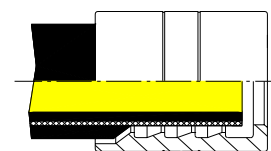

Fig.3
3. Insert the ferrule onto the hose till its end in order to completely cover the portion of hose with no external layer (Fig. 3).